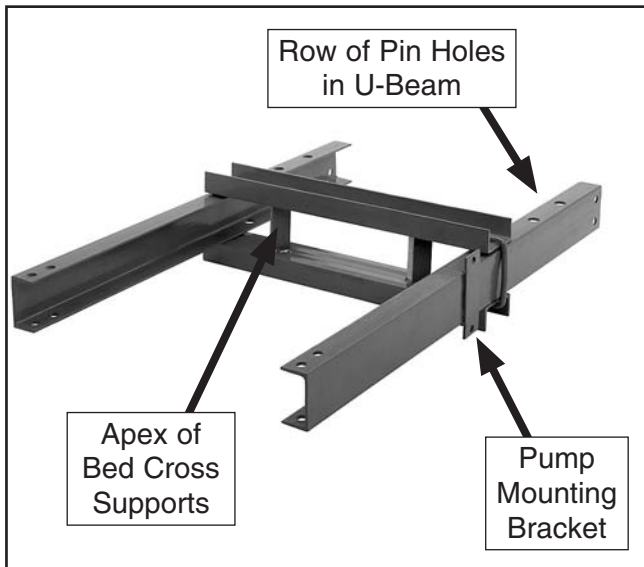

Figure 7. Bed installation.
2. Place both U-beams parallel on the floor so the flanges are facing one another and both beams have their row of pin holes at the same end, as shown in **Figure 7**.
Make sure that the bed is positioned below the pump mounting bracket on the end of the rails where the rows of pin holes are located, as shown in **Figure 7**.